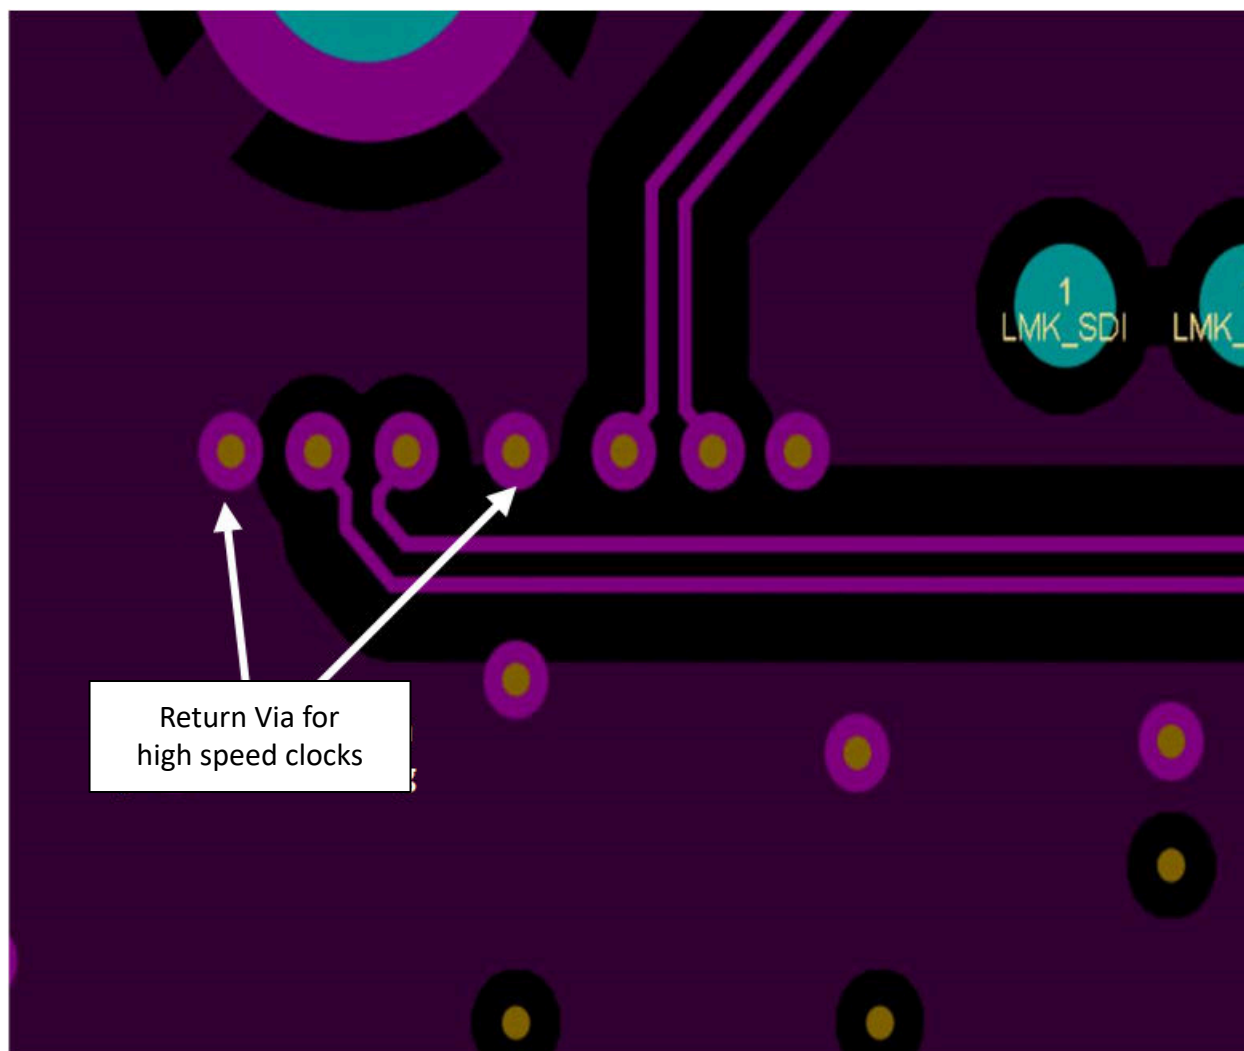

図 8-27. Return Vias for High Speed Clock
8. When high-speed signals must transition to another layer using vias, transition as far through the board as possible (top to bottom is best case) to minimize via stubs on top or bottom of the vias. If layer selection is not flexible, use back-drilled or buried, blind vias to eliminate stubs. Always place two ground vias (“return vias”) close to critical high-speed signal trace via when transitioning between layers to provide a nearby ground return path. See 図 8-27 and 図 8-28 as examples.